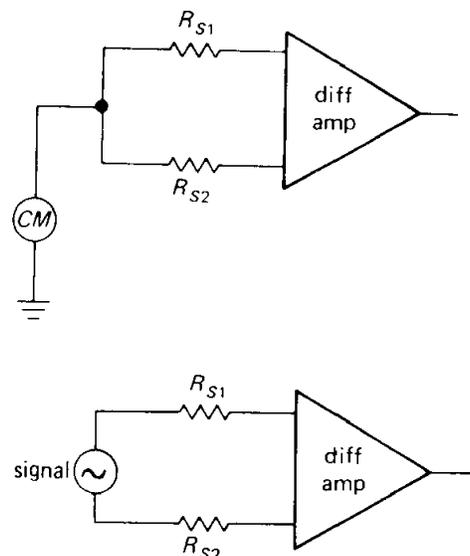

Figure 7.29
0.25 ohm! Furthermore, the source impedance seen at the two terminals has to be matched to 0.0025 ohm in order to attain a CMRR of 100dB. This last result follows from a look at the equivalent circuit (Fig. 7.29). The triangles represent the whole differential amplifier circuit or, in general, any differential or instrumentation amplifier, and  $R_{S1}$  and  $R_{S2}$  represent the Thevenin source resistances in each leg. For common-mode signals, the overall amplifier circuit includes the two source impedances in series with the input resistors  $R_1$  and  $R_3$ , and so the CMRR now depends on the matching of  $R_{S1} + R_1$  with  $R_{S2} + R_3$ . Obviously the demands this circuit makes on the source impedances as calculated earlier are unreasonable.